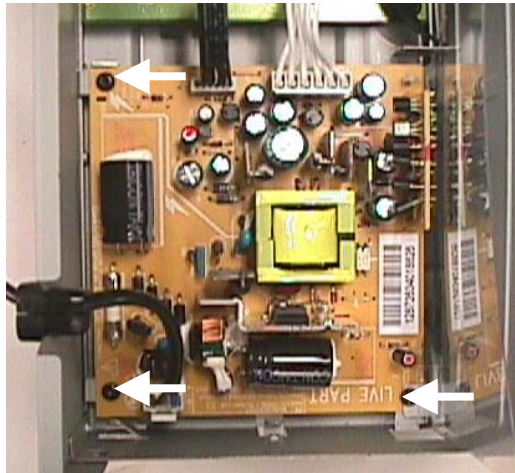

Figure 7 - PSU remove mounting screws
- 1) Remove 3 screws to loosen the PSU Board 1007 as shown in Figure 7.